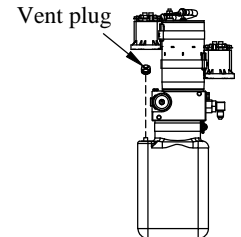

Figure 2: Vent plug.
4. Unscrew the solid plastic plug from the pump reservoir and **Install** the vent plug provided, if not already installed (Figure 2).